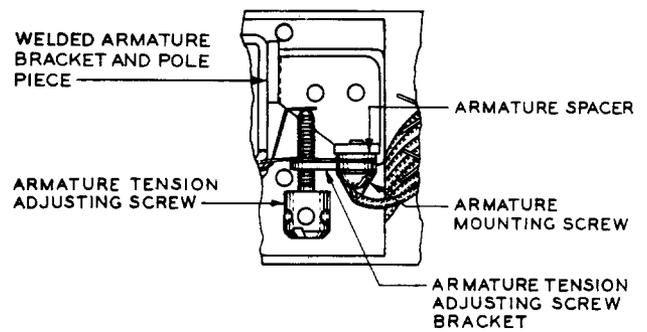

FIG. 6A - 267-TYPE AND D-175787 RELAYS EQUIPPED WITH WELDED ARMATURE BRACKET AND POLE PIECE.
(1) Remove the relay from the mounting plate as outlined in 3.03. When the relay is equipped with a locking arm adjusting screw, remove it with the 3-inch cabinet screwdriver. Remove the armature tension adjusting screw with the No. 340 adjusting key or the 4-inch regular screwdriver.
(2) When replacing a *riveted armature* with a welded armature, an armature spacer must be added in the position shown in Fig. 6A. Remove the armature mounting screws with the 3-inch cabinet screwdriver, taking care not to lose any of the associated parts, and remove the armature from the relay. Reassemble the armature mounting screws and the associated parts, including the spacer, in their proper sequence shown in Fig. 6. Tighten the screws slightly with the 3-inch cabinet screwdriver. To mount the new armature having open-end mounting slots, hold the armature in the angular position so that the upper open-end mounting slot of the armature is adjacent to the upper armature mounting screw. Slip